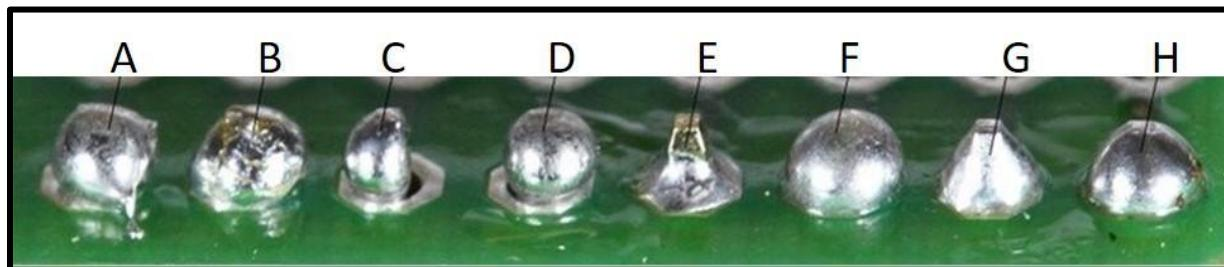

Fig 2.5 Correct and wrong soldering
**Question 2.3:** In the soldering in figure 2.5 indicate which ones are correct and which are not and explain the reasons of that.